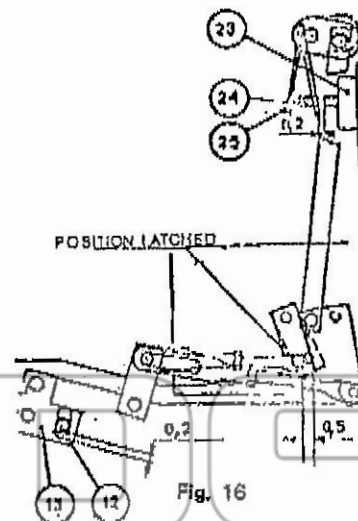

Fig. 16
- b) Inspection. With the breaker in the open position, press the trip button (23) Fig. 16 and check travel of release bar. Distance between maximum position of reset and latch should be 0.5 mm (0.020 inch). Check play between lever (24) and adjustment screw (24) for a minimum of 0.2 mm (0.008 inch). Press the pushbutton fully to check for a minimum clearance of 0.2 mm (0.008 inch) between lug (12) of the latch (13) and the bottom of the slot.
- 2) Inspection. Place breaker in the closed position and inspect to see that a minimum of 0.5 mm (0.020 inch) exists between lever (28) and lug (12) of the lever (13) shown in the normal position.